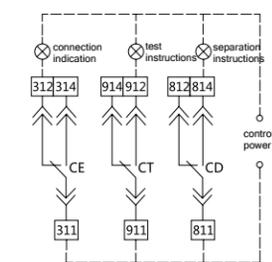
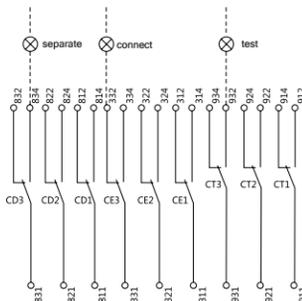

Figure 5
Figure 6
- Drawer optional accessories. 1000 frame and 1600 frame can provide 2 separate indicating contacts (CD), 1 test indicating contact (CT), 3 CE indication contacts; the 4000 frame can provide 3 CD, 3 CT, and 3 CE; but it needs to be ordered separately, and the numbers are shown in Figure 6.
- When the circuit breaker is in the connected position, see Figure 5 for the wiring diagram (the dotted line is connected by the user); see Figure 6 for multiple groups of three-position indication signals